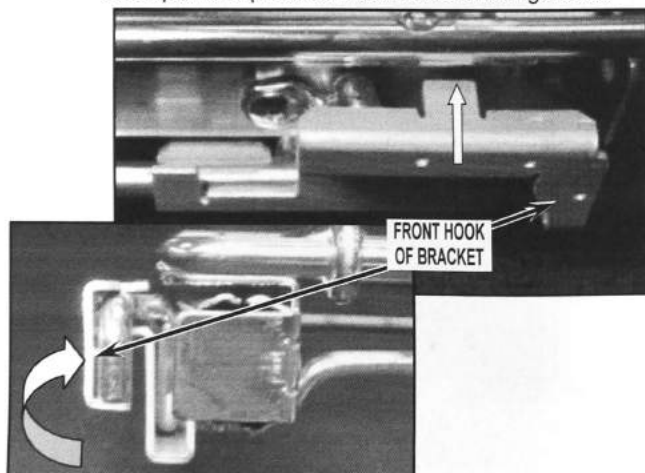

FIGURE 13
c) Hold bracket in upward position, push bracket inward to snap over top side of rack frame. See Figure 13.
IMPORTANT: Do not roll the channel locks over the tab when bending as it may damage the part. When closing the tab at the front, it may flair out the front hook of the bracket, crimp back into place if needed. See Figures 13 and 14.